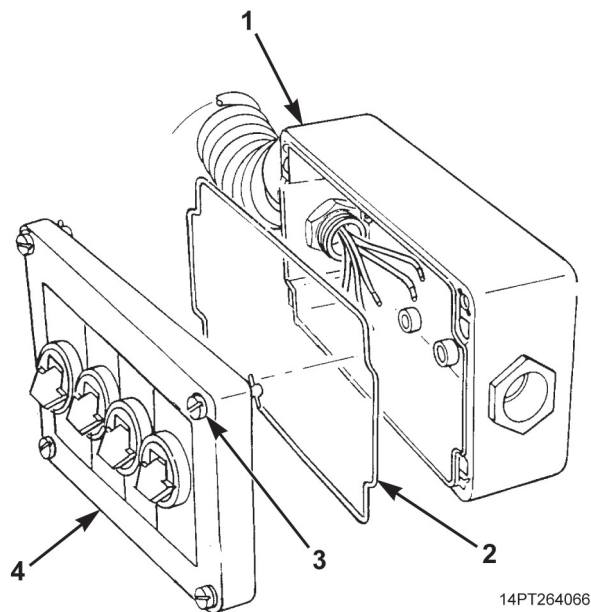

Figure 2. MCS Control Box Cover Disassembly.
4. Loosen four twist-lock screws (Figure 2, Item 3) and remove cover (Figure 2, Item 4) from control box (Figure 2, Item 1).
5. Remove gasket (Figure 2, Item 2) from cover (Figure 2, Item 4).